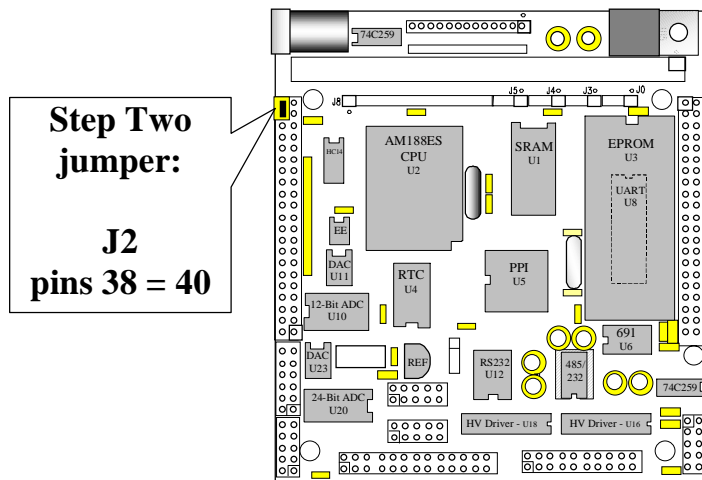

Figure 1.4 Location of Step 2 jumper on the A104
- Set the jumper on H7 pins 1-2 on the A104 (Figure 1.4).